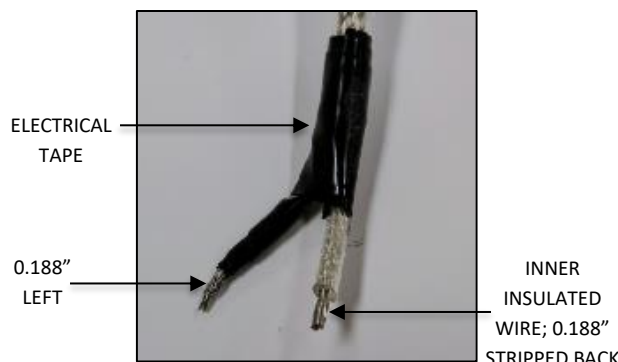
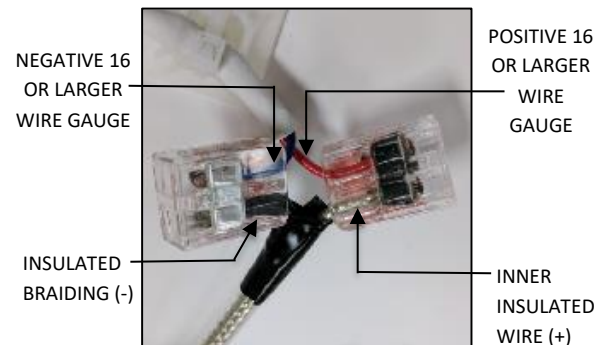

FIG. 22
FIG. 23
3. Using electrical tape, insulate the twisted strands leaving 0.188" exposed for connections. Strip off 0.188" of the inner insulation as you normally would for 18AWG stranded core wire as shown in FIG. 22 below. Connect the inner insulated wire (+) to the positive 16 gauge or larger wire ran in step 5 at the hanging bracket and Connect the outer braiding (-) to the negative 16 gauge or larger wire ran in step 5 at the hanging bracket FIG. 23 below.